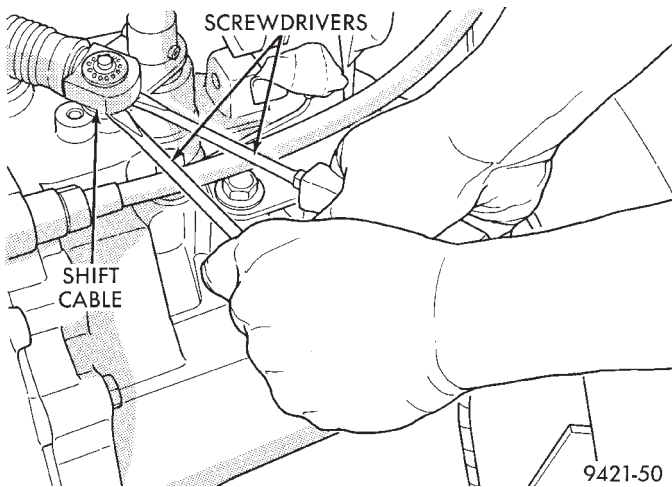

Fig. 10 Shift Cable Removal
- (1) Disconnect battery negative cable at shock tower.
- (2) Remove air cleaner assembly.
- (3) Disconnect gear shift cable ends from transaxle shift levers (Fig. 10).